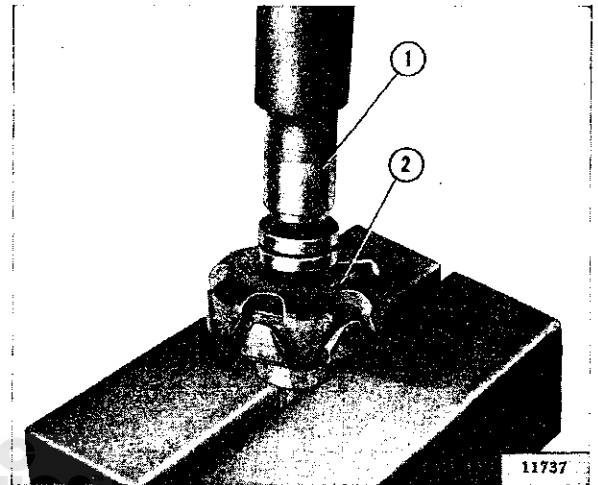

FIG. H-37—INSTALLING REAR ROTOR BEARING
- b. Install the rear bearing on the rotor shaft front end using Bearing Installer C-3935 as shown in Fig. H-37.